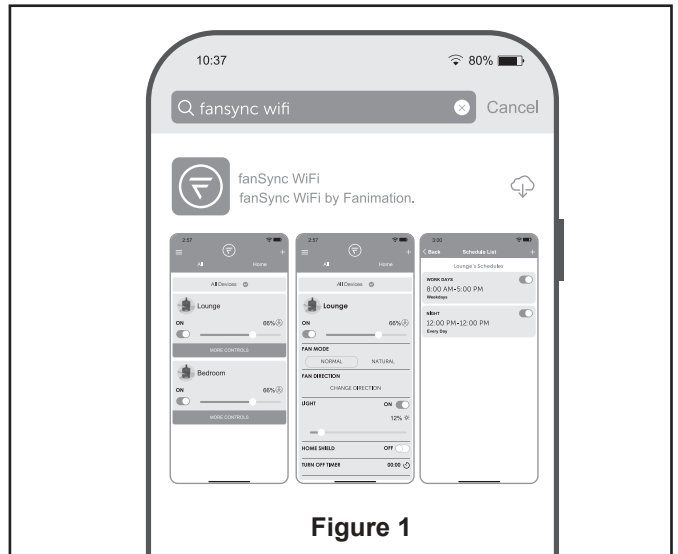

Figure 1
1. Visit the Apple APP Store or the Google Play Store to download the free fanSync WiFi APP. (Figure 1)